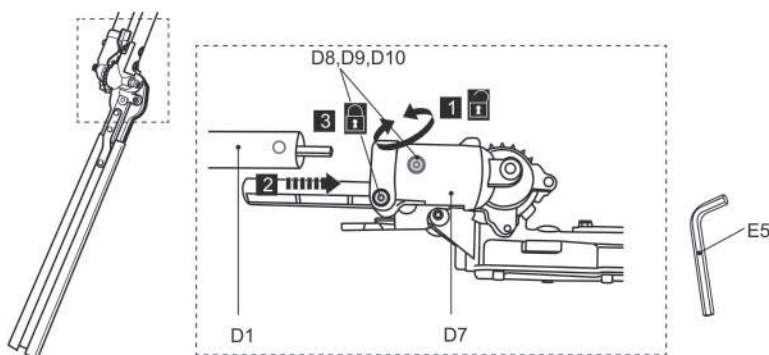

Fig. 20
- 1) Loosen the bolts (D8) using tool (E5) until the lower pole (D1) can be inserted into the support (D7) (Fig. 20, step 1). Do not remove the bolts (D8), spring washers (D9) and washers (D10) from the support (D7).
- 2) Align and insert the lower pole (D1) into the support (D7) with a twist motion all the way to the stop until the mounting hole is aligned with the bolt. Use the arrow marking to help the alignment. (Fig. 20, step 2).
- 3) Tighten the bolts (D8) to secure the lower pole in position (Fig. 20, step 3).